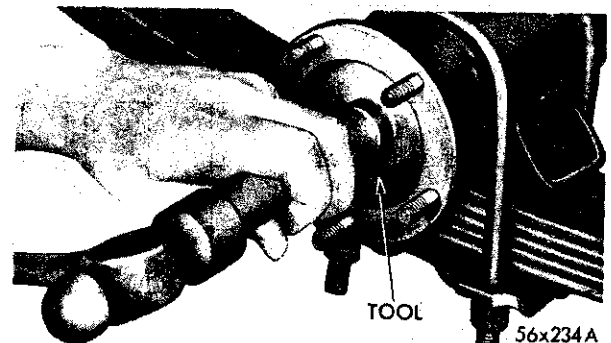

Fig. 5—Installing Axle Shaft Inner Oil Seal
(1) Install a new axle inner oil seal (Fig. 5) using Tool C-839.